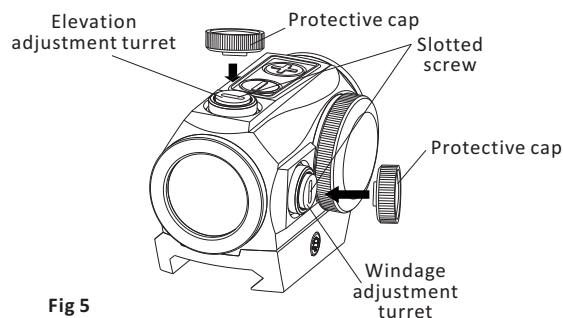

Fig 5
1. On top of sight is the elevation adjusting turret, windage adjusting turret is on the right side (see Fig5). The sight has been factory adjusted for approximate zero.
2. The built in screwdriver tool on the protective cap can be used for zeroing adjustment (see Fig5). See label inside cap.